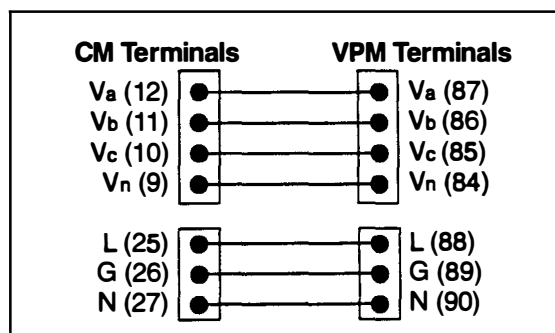

Figure C-3: Terminal connections between Circuit Monitor and voltage/power module.
Refer to figures C-3 and C-4 when completing the following steps.
2. Connect the Circuit Monitor voltage input terminals 12, 11, 10, and 9 to voltage/power module voltage output terminals 87, 86, 85, and 84, respectively, as shown in figure C-3.
3. Connect Circuit Monitor control power input terminals 25, 26, and 27 to voltage/power module control power input terminals 88, 89, and 90, respectively, as shown in figure C-3.